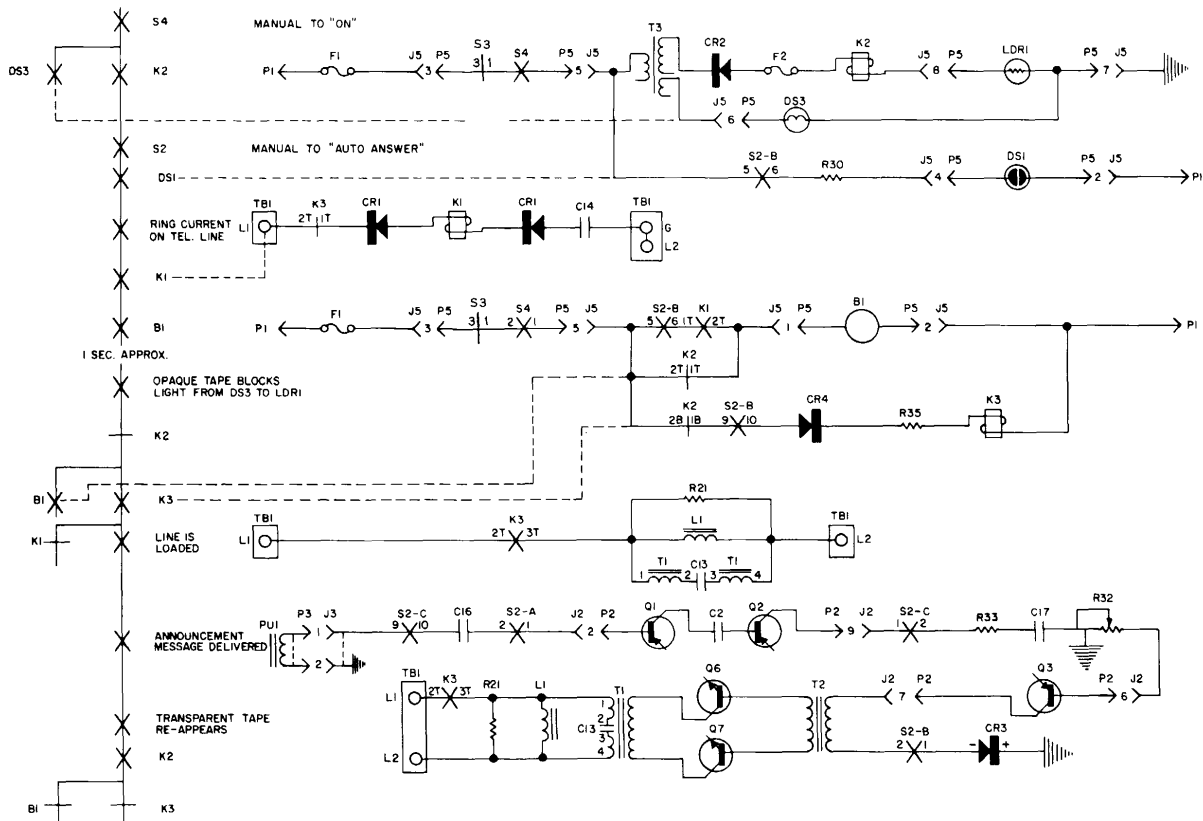

Figure 3. Automatic Answer Sequence Chart.
4. AUTOMATIC ANSWER (FIGURE 3)